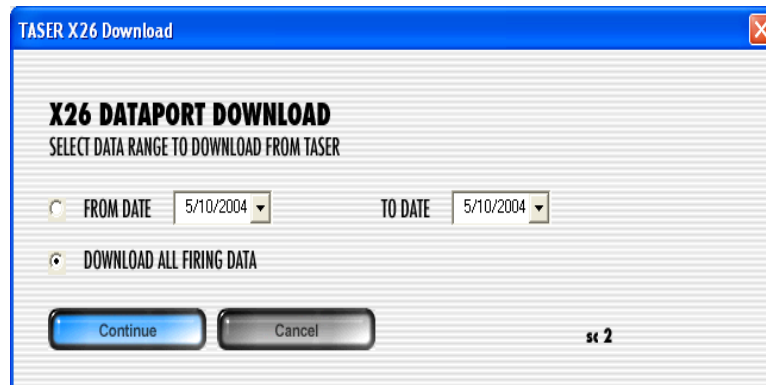

Figure 18
8. Select the desired date range or **DOWNLOAD ALL FIRING DATA** and click **Continue** (Figure 18).